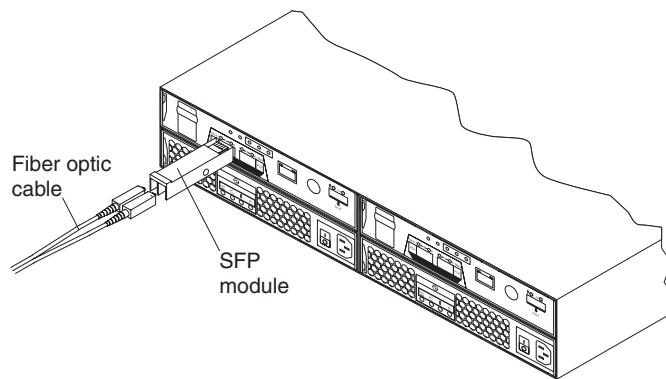

Figure 16. Installing an SFP module into the host port
4. Insert the SFP module into the host port until it clicks into place. See Figure 16.